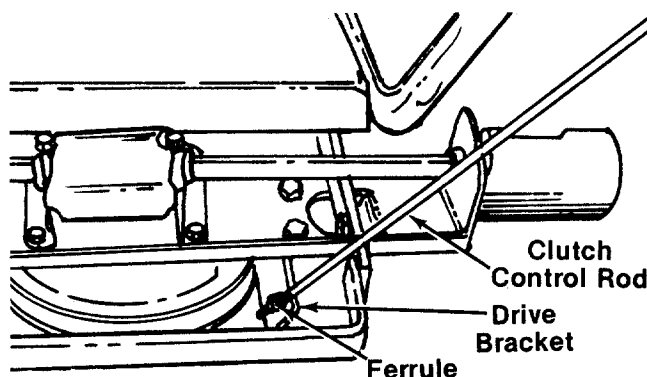

FIGURE 6.
2. Place ferrule (G) in position on drive bracket. See figure 6. Thread clutch control rod through ferrule until approximately  $1\frac{3}{8}$ " of threads show below ferrule. See figure 6.